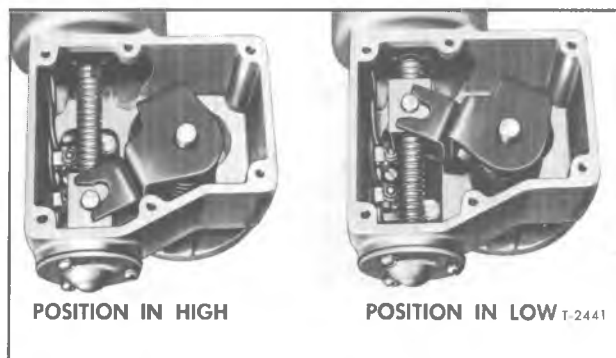
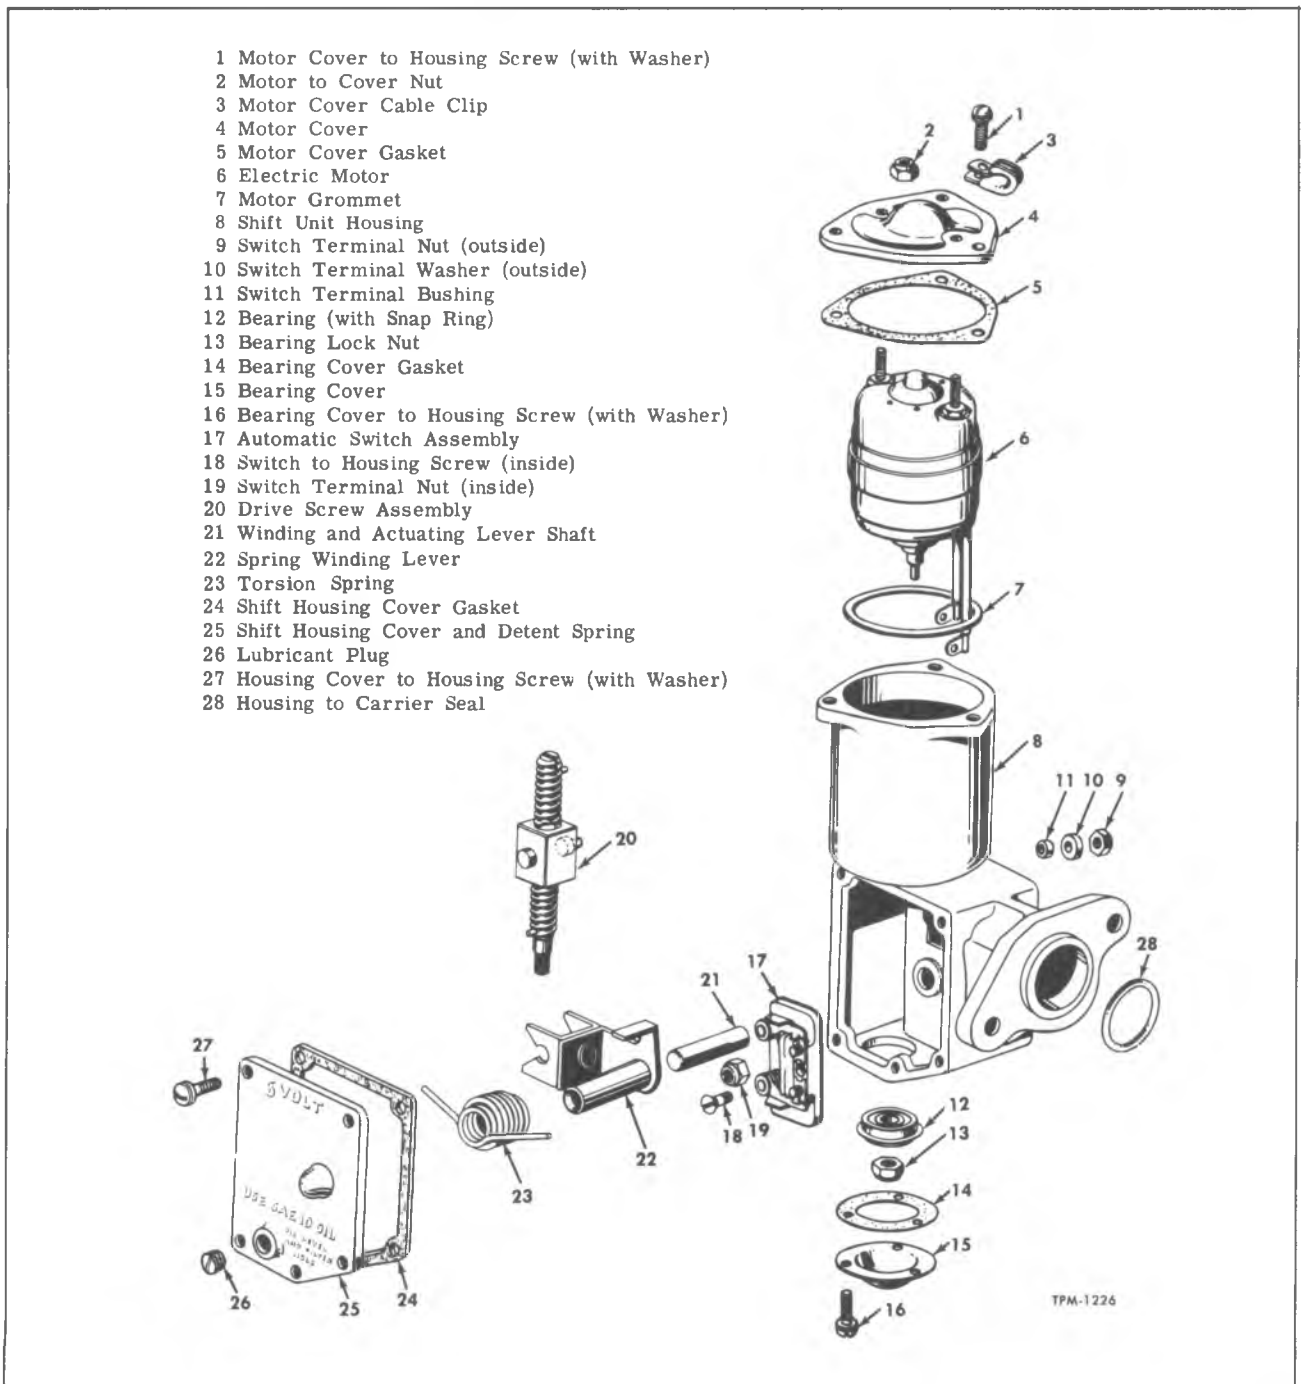

Figure 7—Position of Drive Screw in High and Low Range
Figure 11—Electric Shift Unit Components (Rockwell)
When the control switch button is in "HI" range, wiring carries current to one field of the unit motor. The armature and drive screw turn in a clockwise direction and move the nut down (fig. 7).
1. Remove five screws from shift unit housing cover (25) (refer to fig. 11), then remove cover. This also drains the lubricant. After cover is removed, note that drive screw nut is either at top or bottom (fig. 7) depending on whether axle is in "HIGH" or "LOW" range position.
2. After removing cover (26), the drive screw (20) nut will be at either top or bottom depending upon the position in which the control switch was last left.
3. By turning drive screw, run nut from top or bottom to the center of the screw (fig. 11).